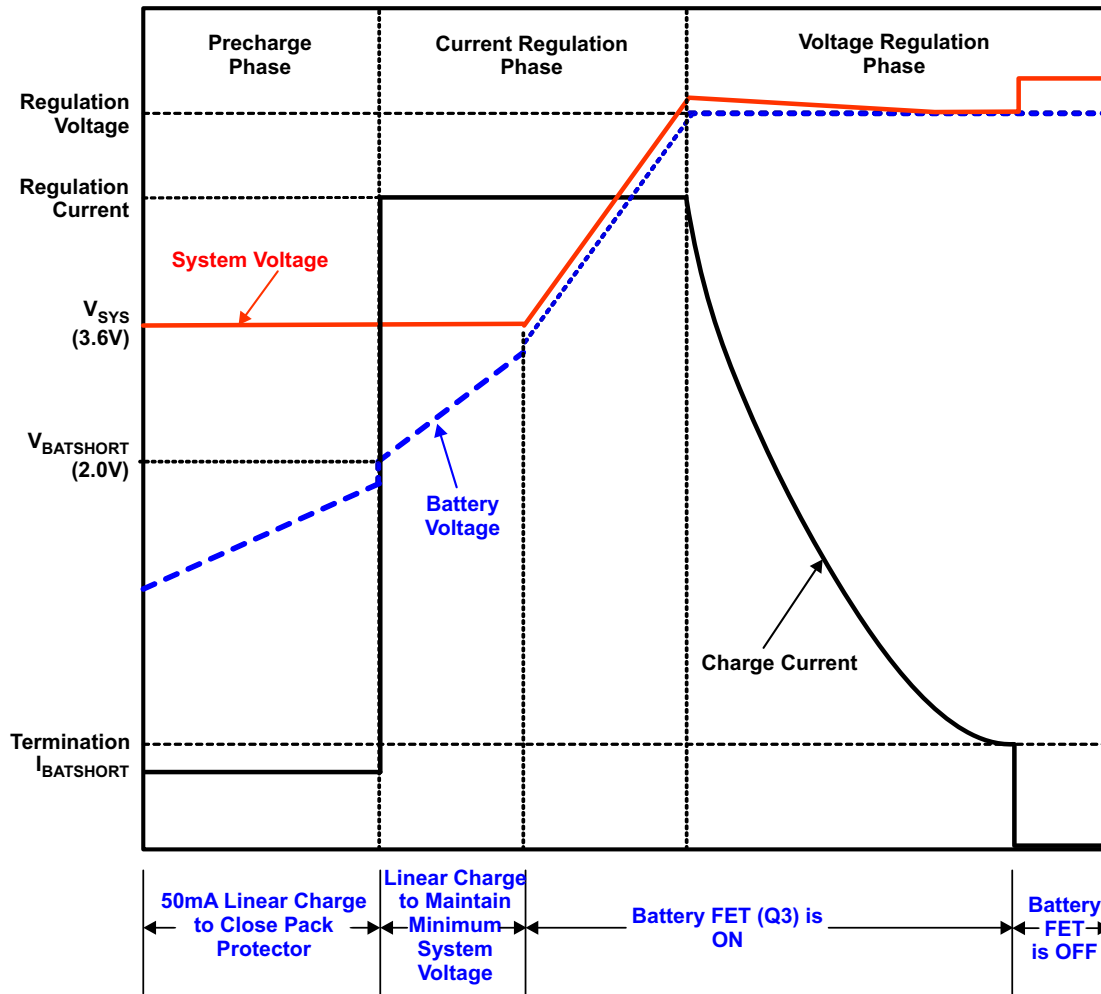

Figure 24. Typical Charging Profile of bq2426x with Termination Enabled
The bq2426x supports a precision Li-Ion or Li-Polymer charging system for single-cell applications. Charging is done through the internal battery MOSFET. There are 6 loops that influence the charge current; constant current loop (CC), constant voltage loop (CV), thermal regulation loop, minimum system voltage loop (MINSYS), input current limit and V_{IN} -DPM. During the charging process, all six loops are enabled and the one that is dominant takes control. The minimum system output feature regulates the system voltage to $V_{SYSREG(LO)}$, so that startup is enabled even for a missing or deeply discharged battery. Figure 24 shows a typical charge profile including the minimum system output voltage feature.
Once the battery is charged enough that the system voltage rises above $V_{\text{SYSREG(LO)}}$ (approximately 3.5V), the battery FET is turned on fully and the battery is charged with the full programmed charge current set by the I²C interface, I_{CHARGE} . The charge current is regulated to I_{CHARGE} until the voltage between BAT and PGND reaches the regulation voltage. The voltage between BAT and PGND is regulated to V_{BATREG} (CV mode) while the charge current naturally tapers down as shown in Figure 24. During CV mode, the SYS output remains connected to the battery. The impedance of the battery FET is increased to 4x of the fully on value when IBAT falls below ~350mA to provide increased accuracy during termination. This will show a small rise in the SYS voltage when the $R_{\text{DS(on)}}$ increases below ~350mA.